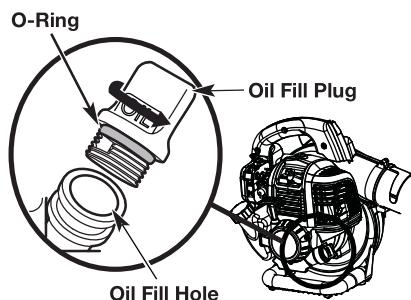

Fig. 8
2. Unscrew the oil fill plug (Fig. 8)
3. Pour the entire container of oil into the oil fill hole (Fig. 8)
DO NOT overfill. Refer to Checking the Oil Level. If using a blended fuel: Never add oil to the fuel tank. This unit has a four-cycle engine. DO NOT mix oil with gasoline. Wipe up any oil that may have spilled. Make sure the O-ring is in place on the oil fill plug Fig. 8).